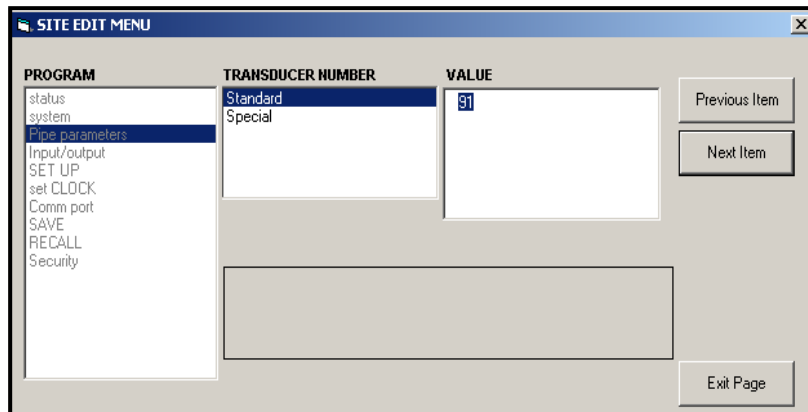

Figure 37: The Pipe Parameters Option in the Site Edit Menu
- a. Highlight and double-click on the desired option in the left pane. *Figure 37* below shows the first entry (Transducer Number) in the **Pipe parameters** option. The title above the center pane lists the current entry, while the center pane displays the available selections for that entry.